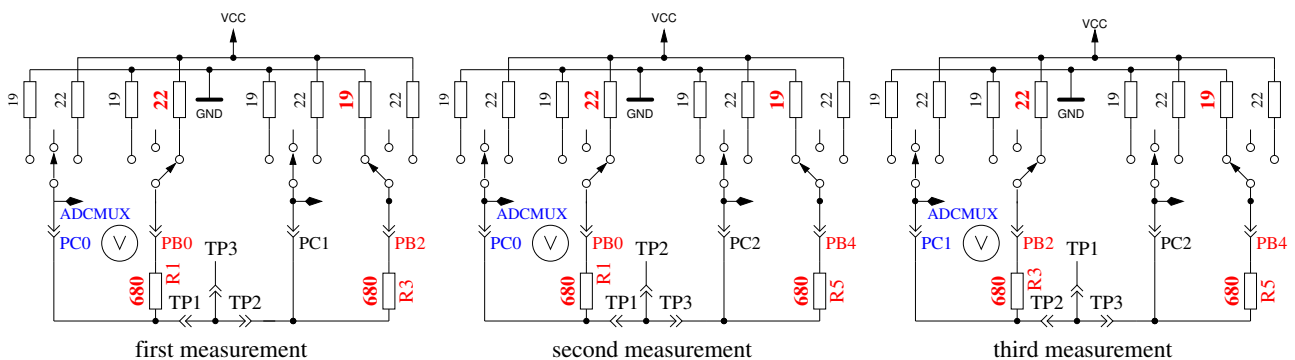

Figure 5.36: Comparison of 680Ω resistors
- Comparing of the 680Ω resistors.** In row 1 the cryptic text “+RL- 12 13 23” is shown. Meaning of this is as follows: The RL is the short form of Resistor Low meaning the 680Ω resistors. The 12 stand for: resistor at pin 1 is connected to VCC (+) and resistor at pin 2 is connected to GND (-). The result of this measurement is displayed in row 2 at the first place as difference to the theoretical value. In row 1 follows now a “13” which means, that the first connection of measurement 1 is still connected with 680Ω to VCC but that the resistor of pin 3 is connected to GND. The result is displayed in the middle place of row 2 as difference to the theoretical value. The last measurement of this test “23.” means that now the resistor at pin 2 is connected to VCC (+) and the resistor of pin 3 is connected to GND. The result of measurement is displayed at the last place of LCR row 2 as difference to the theoretical value. Please remember, that the resolution of the ADC is about 4.88mV! The measurement situation is also shown in figure 5.36. The theoretical value with respect to the internal resistance of the pins should be: $\frac{5001 \cdot (19+680)}{(19+680+680+22)} = 2493$.